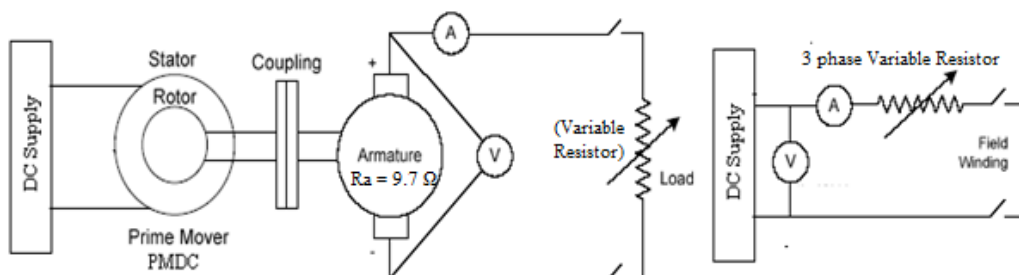

Figure 6.1. Circuit Diagram for Internal and External Characteristics
Therefore, if we add drop of armature ($I_a R_a$) to terminal voltage V_t we get actually induced emf (E). The three main reasons for decrease in terminal voltage of Shunt Generator under load condition are armature reaction, armature resistance and drop in terminal voltage as discussed above. The circuit diagram for determining Internal and External Characteristics is shown in Figure 6.1
1. Make the circuit as shown in circuit diagram in Figure 6.1.